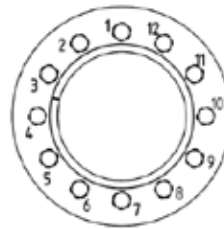

Fig. 7.12.5
- tighten the screws by a dynamometric wrench – set at a value approximately higher than 5% compared to the one foreseen in table 7.12.1 – the screws of shrink disc must be gradually and uniformly tightened, with continuous sequence (not diagonally!) see fig. 7.12.5 and during several phases (approx. 1/4 rotation each time) until the 1/4 rotation is not possible anymore;